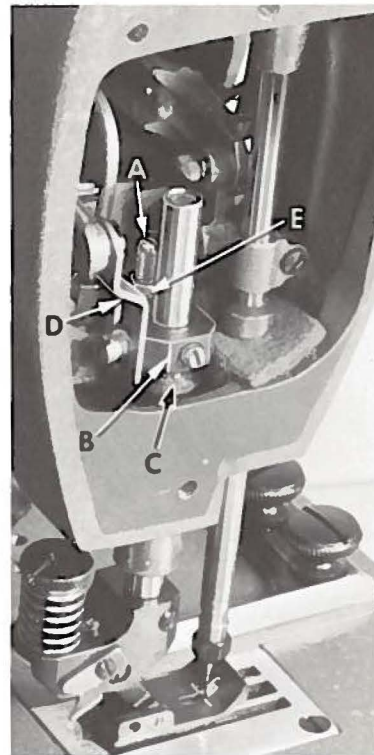

Fig. 14
Remove the presser spring regulator and the presser spring. Adjust the long stop screw (A, Fig. 14) in presser bar guide (B) against the bed casting as required to insure a clearance between the guide and the top of presser bar bushing (C), yet so the guide is pulled up quickly by the lifter lever link (D) when foot treadle is activated. Tighten lock nut (E) on stop screw.